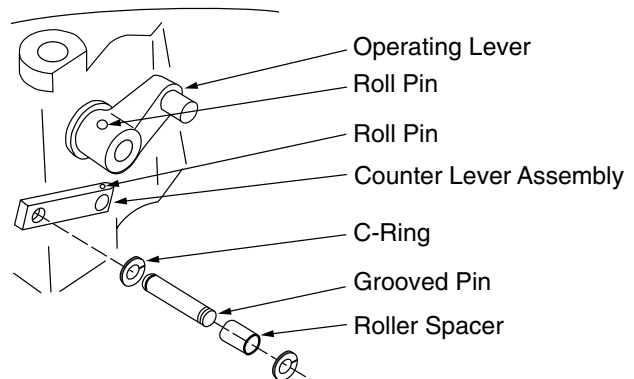

Figure 9. Operation counter operator arm assembly.
3. Install a C-ring, Item 6, on one side of double-grooved pin, Item 4, and slide assembly through lever arm, from sleet hood. See Figure 9.